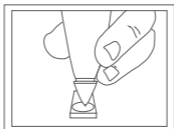

Figure 6
6. To begin calibrating, carefully press the probe tip onto the Calibration Disk perpendicularly as shown in Figure 6. Ensure that the probe tip remains fully depressed during this process, to achieve consistent pressure on the tip.